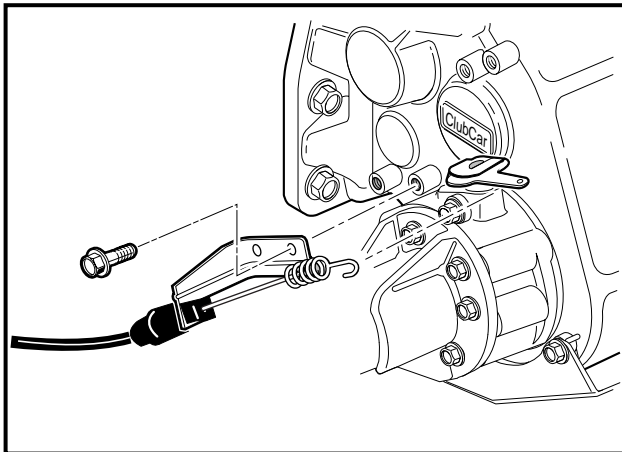

Figure 16-38 Differential Lock Arm and Bracket
19. Remove the two bolts that secure the differential lock cable bracket to the transaxle housing and unhook the cable spring from the differential lock arm (**Figure 16-38, Page 16-15**).